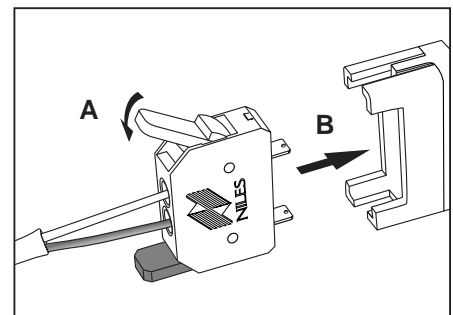

Figure 30
3. Insert the negative (–) unstripped wire fully into the speaker-wire hole next to the BLACK lever and the positive (+) unstripped wire into the speaker-wire hole next to the RED lever. Squeeze the RED and BLACK levers until you hear an audible "click", indicating that the connector has locked onto the wire. (See Figure 30-A).
4. Insert the no-strip connector into the corresponding zoned speaker-output socket on the rear panel of the ZR-4630. Push it down until it locks in place. The connector only fits the socket in one position. If the terminal does not insert completely, reverse the connector 180 degrees and re-insert. (See Figure 30-B).